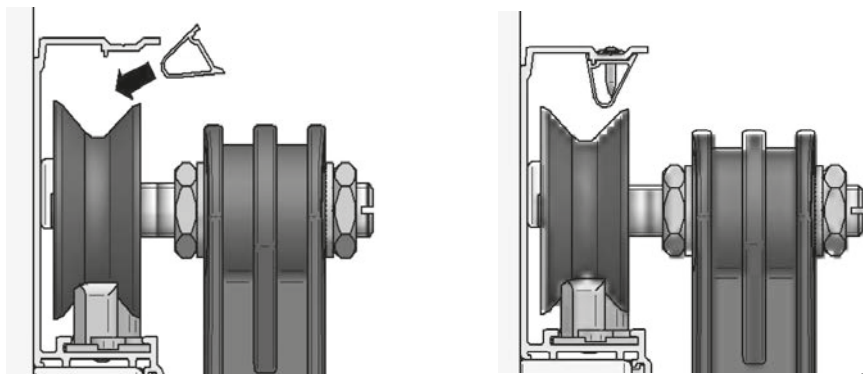

Fig. 8
- After installing the leaf door, secure the anti-derailment profile as shown in Fig. 8.